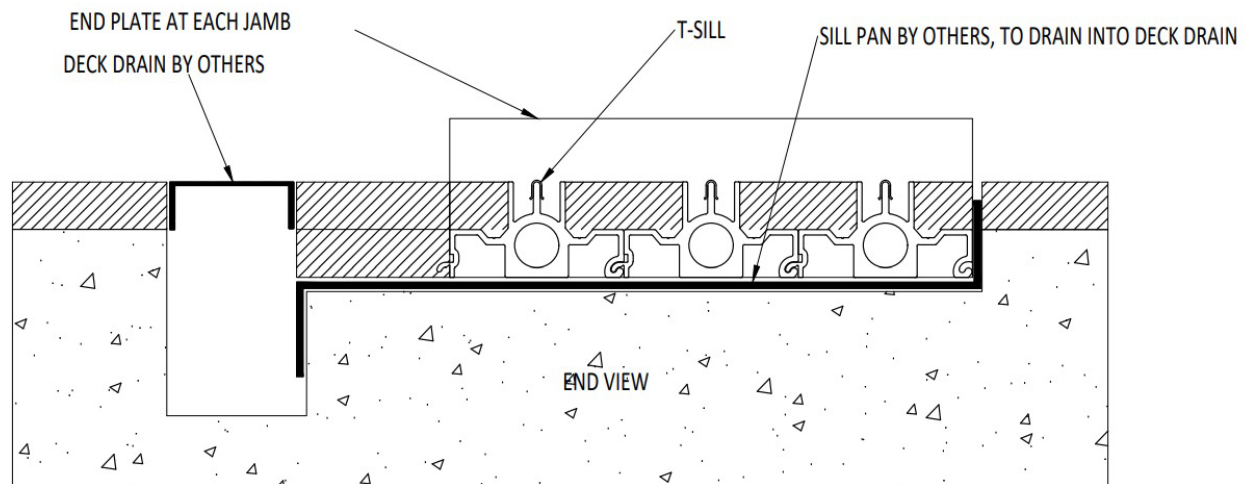

Figure 7
- Front Weep with deck drain and pan by others (See Figure 7)